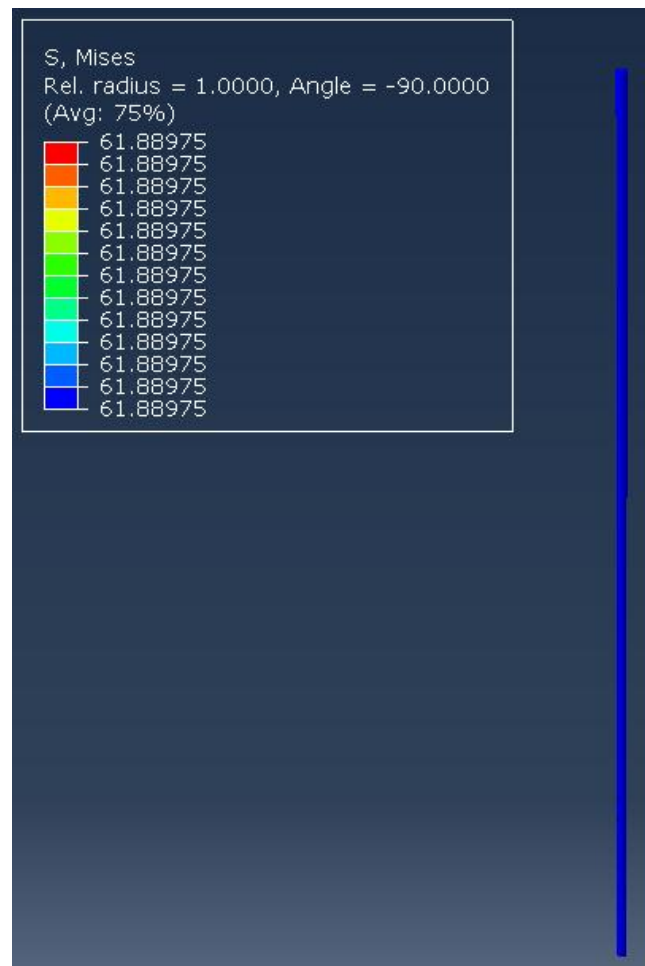

Figure L2–10. Mises stress contour plot.
4. In the toolbox, click  (or select **Plot**→**Contours**→**On Deformed Shape** from the main menu bar) to view a contour plot of the von Mises stress, as shown in Figure L2–10. You can also click on  to view the time history animation.
- Click **Plot** in the **XY Data from ODB Field Output** dialog box. Click **Dismiss**. Strain vs. Time plots (log and linear time scale) for the bottom node of the wire are displayed as shown in Figure L2–11 (a) and (b).